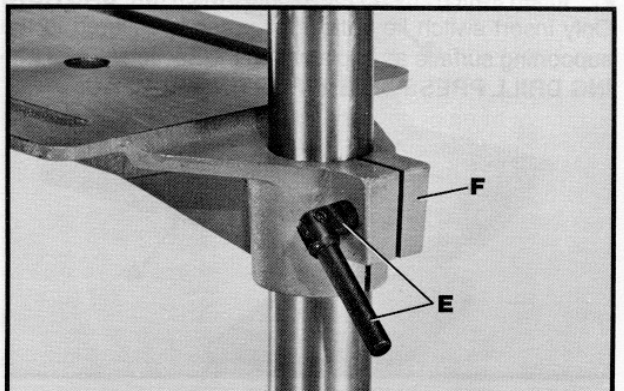

Fig. 4
3. Thread table lock handle (E) Fig. 4, into threaded hole in table bracket (F), as shown. Align table with base and tighten lock handle (E). **NOTE:** The lock handle (E) with the shortest handle is used with the table.